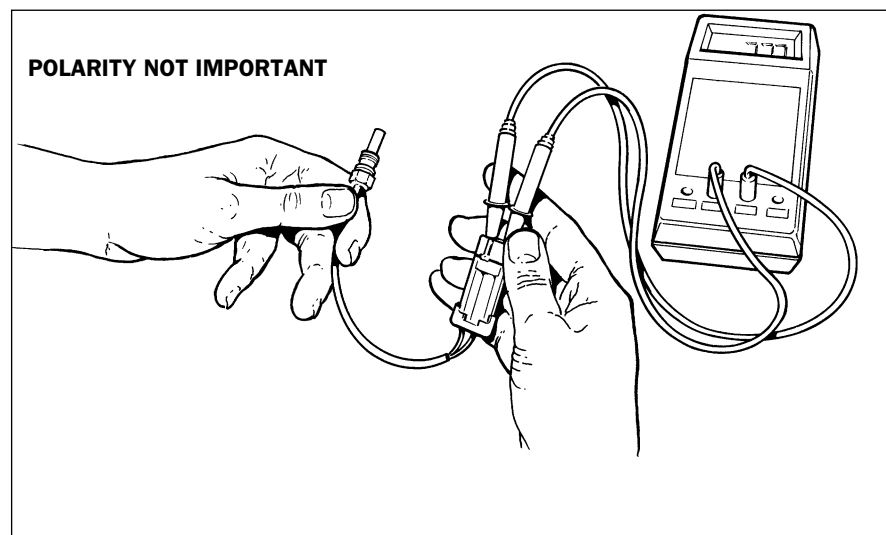

Figure 4-3 Temperature Sensor Test
- Test the sensor. (See figure 4-3)